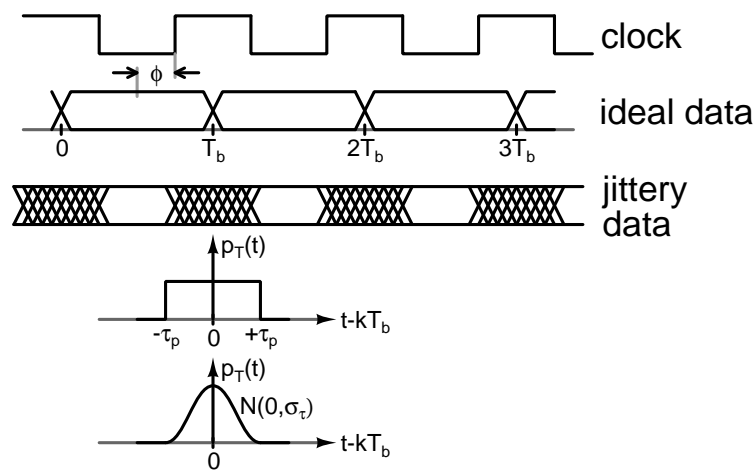

Figure 1: Problem 1
1. A full-rate binary phase detector receives data and clock with an offset of ϕ as shown in Fig. 1. Plot the output (average of $UP - DN$) versus ϕ (the phase by which the rising edge of the clock lags the middle of the data period) for (a) ideal data, and (b) jittery data in which the data transitions move from the ideal bit boundaries (for the two jitter cases shown). The probability density function of the deviation of the data transition points from the ideal transition points are shown. One is a uniformly distributed jitter within $\pm\tau_p$ and the second is a Gaussian distributed jitter with zero mean and standard deviation of σ_τ . In both cases, express the maximum incremental gain of the phase detector in terms of the standard deviation of the data jitter.